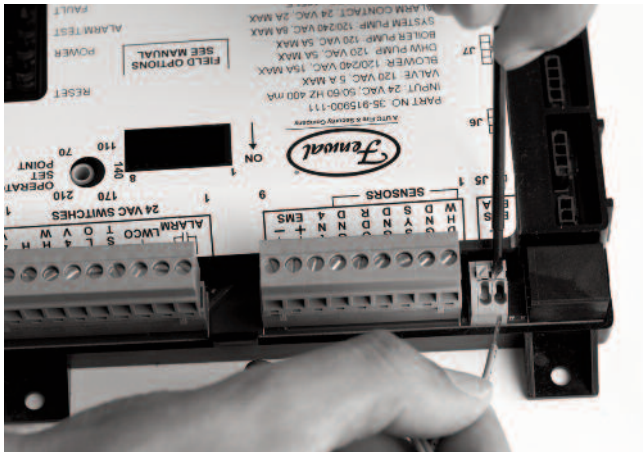

Fig. 35: FT\_BUS Wire Connection
3. Connect the FT\_BUS wires to the PIM by pressing down on the slots with a small screwdriver and then inserting the wires into the holes. See Fig. 35.